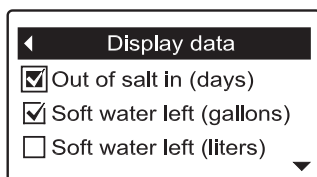

FIG. 114
4. Press the SELECT (○) button to display the Display data screen (See Figure 114).